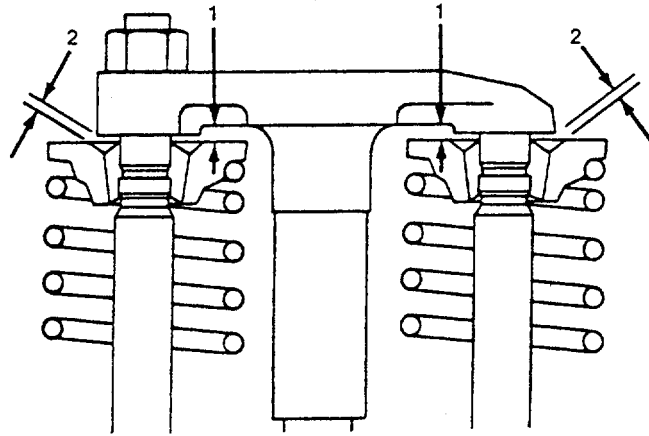

FIGURE 2-56. Crosshead Clearance.
- (5) Measure the clearance (1 and 2, Figure 2-56) between the crosshead and the valve spring retainer. The clearance must be a minimum of 0.025 inch (0.65 mm).